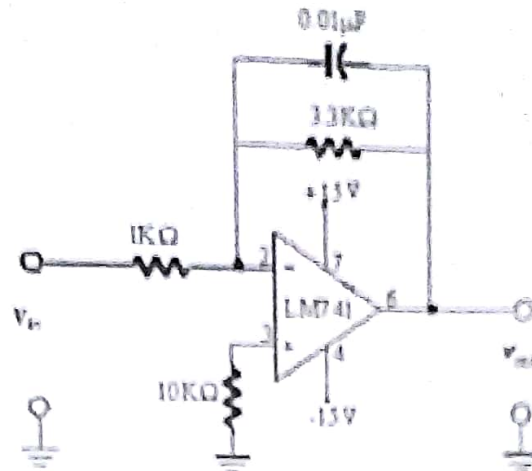
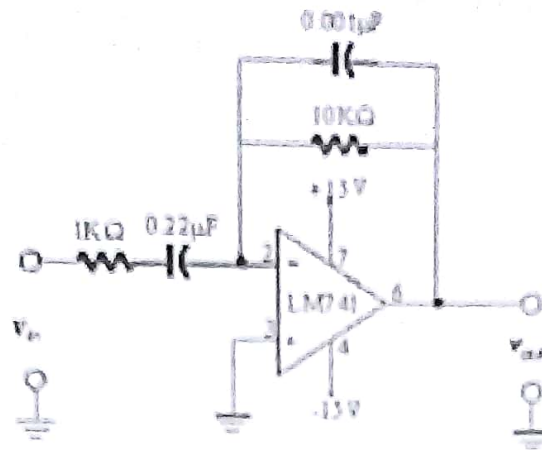

Fig. 7: Integrator Circuit
Fig 8: Differentiator Circuit
5. Connect the circuit shown in Figure 7.
9. Connect the circuit shown in Figure 8.
3. Refer to Figure 7: What is the cutoff frequency with R_0 connected?
4. In step (8), explain why the output peak-to-peak value decreases as the frequency is increased.
5. Refer to Figure 8: What are the theoretical break frequencies for the differentiator?